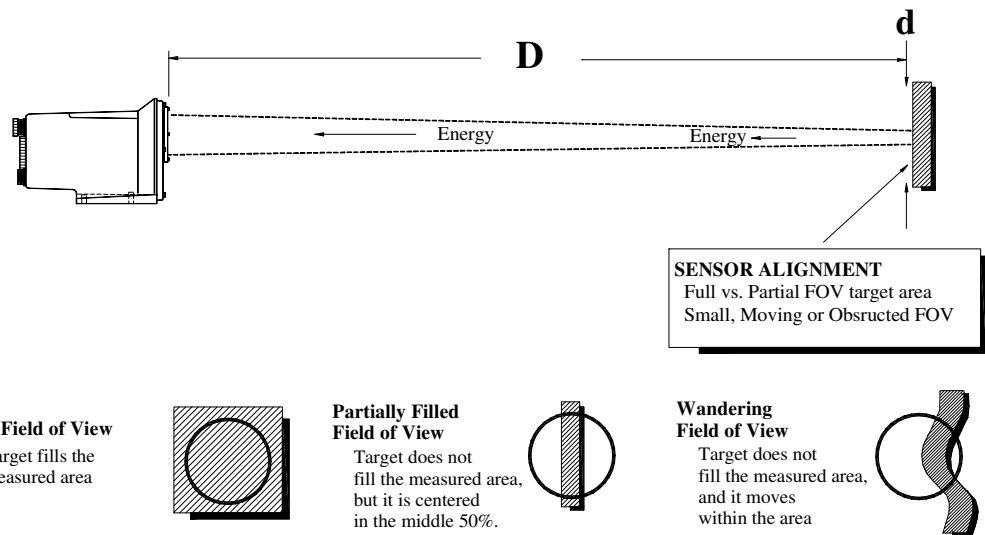

Figure 7 – Full vs Partial Filled Field of View
Calex temperature sensors use a fixed optical system to 'focus' on the desired target area. The energy collected by the sensor within this target area is the basis for calculating the measured target's temperature. As illustrated in Figure 7, the sensor's Field of View (FOV) is a cone shaped optical pattern that is defined by the **diameter of the target area (d)** and the **working distance (D)** of the sensor to the measured target. Section 2.2 provides the field of view curve that defines the measured target diameter at all working distances for the sensor purchased.
There are several reasons a measured object may not fill a sensor's FOV (see figure 7).